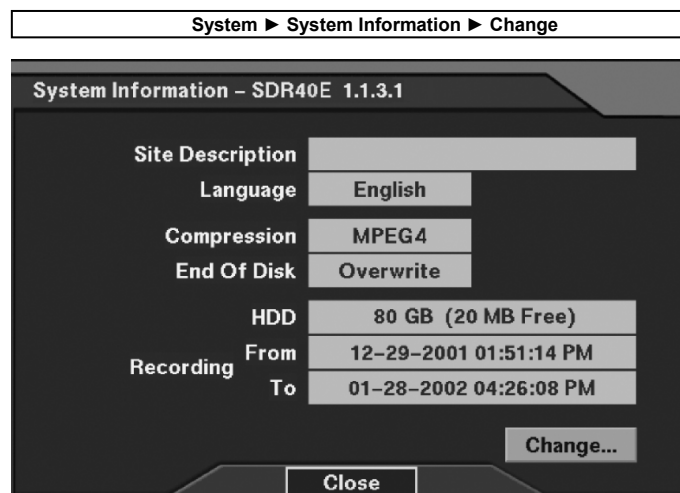

Figure 8 System Information Dialog
- **System Information:** Set up the system information (Refer to Figure 8 System Information Dialog.).
(Refer to Figure 8 System Information Dialog.)